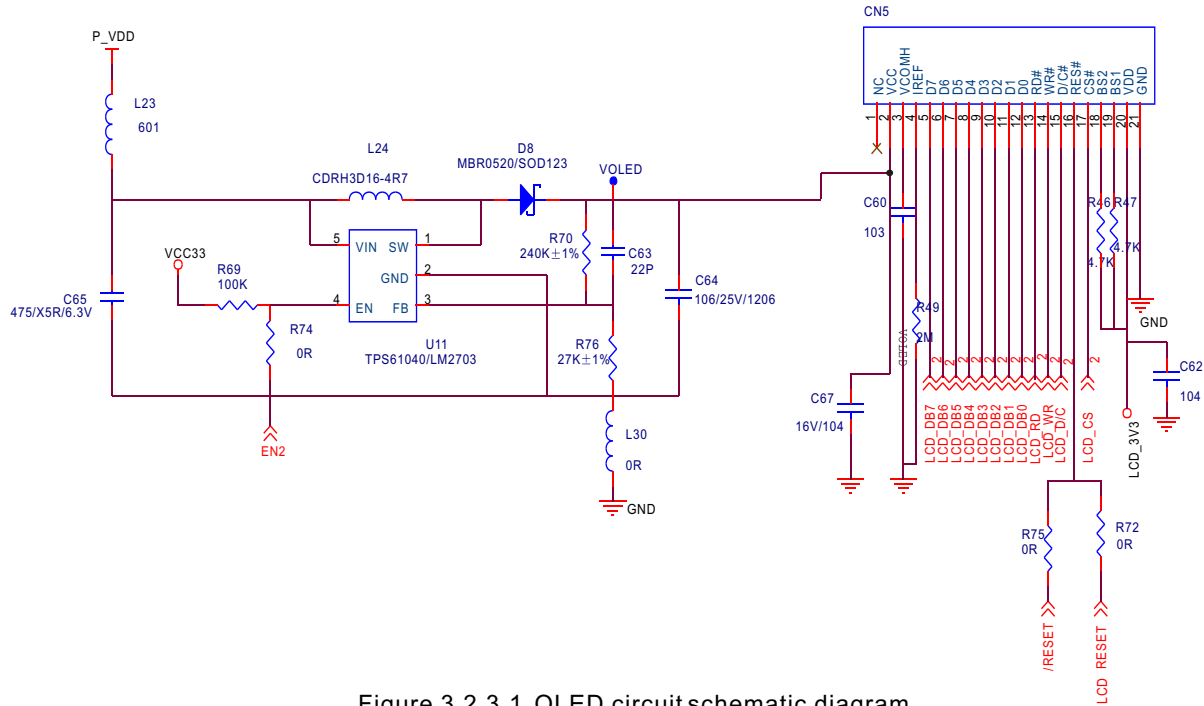

Figure 3.2.3.1 OLED circuit schematic diagram
1. OLED module circuit schematic diagram is shown in the figure 3.2.3.1: